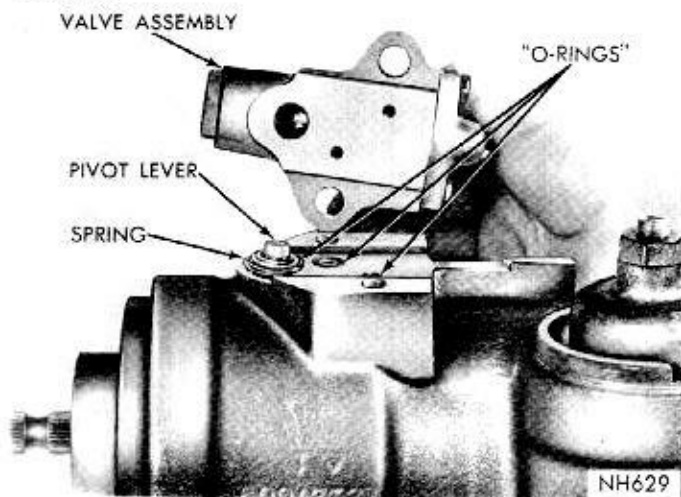

Fig. 10—Removing Valve Body Assembly
- (1) Drain steering gear through the pressure and return connections by turning steering wormshaft from one extreme of travel to the other.
- (2) Remove valve body attaching screws, and remove valve body and three "O" rings (Fig. 10).
- (4) Remove cross shaft grease retainer and oil seal as outlined in "Cross Shaft Oil Seal Replacement."
- (5) Loosen cross shaft adjusting screw locknut and remove cross shaft cover spanner nut with Tool C-3988 (Fig. 10).
- (6) Rotate wormshaft to position cross shaft sector teeth at center of piston travel. Loosen steering power train retaining nut with Tool C-3989.
- (7) Position holding Tool C-3323 so cross shaft is in a horizontal position. Place Tool C-3875 on threaded end of cross shaft and slide tool into housing until both tool and shaft are engaged with bearings.
- (8) Turn wormshaft to full left turn position to compress power train parts. Remove power train retaining nut with C-3989. Remove housing head tang washer.